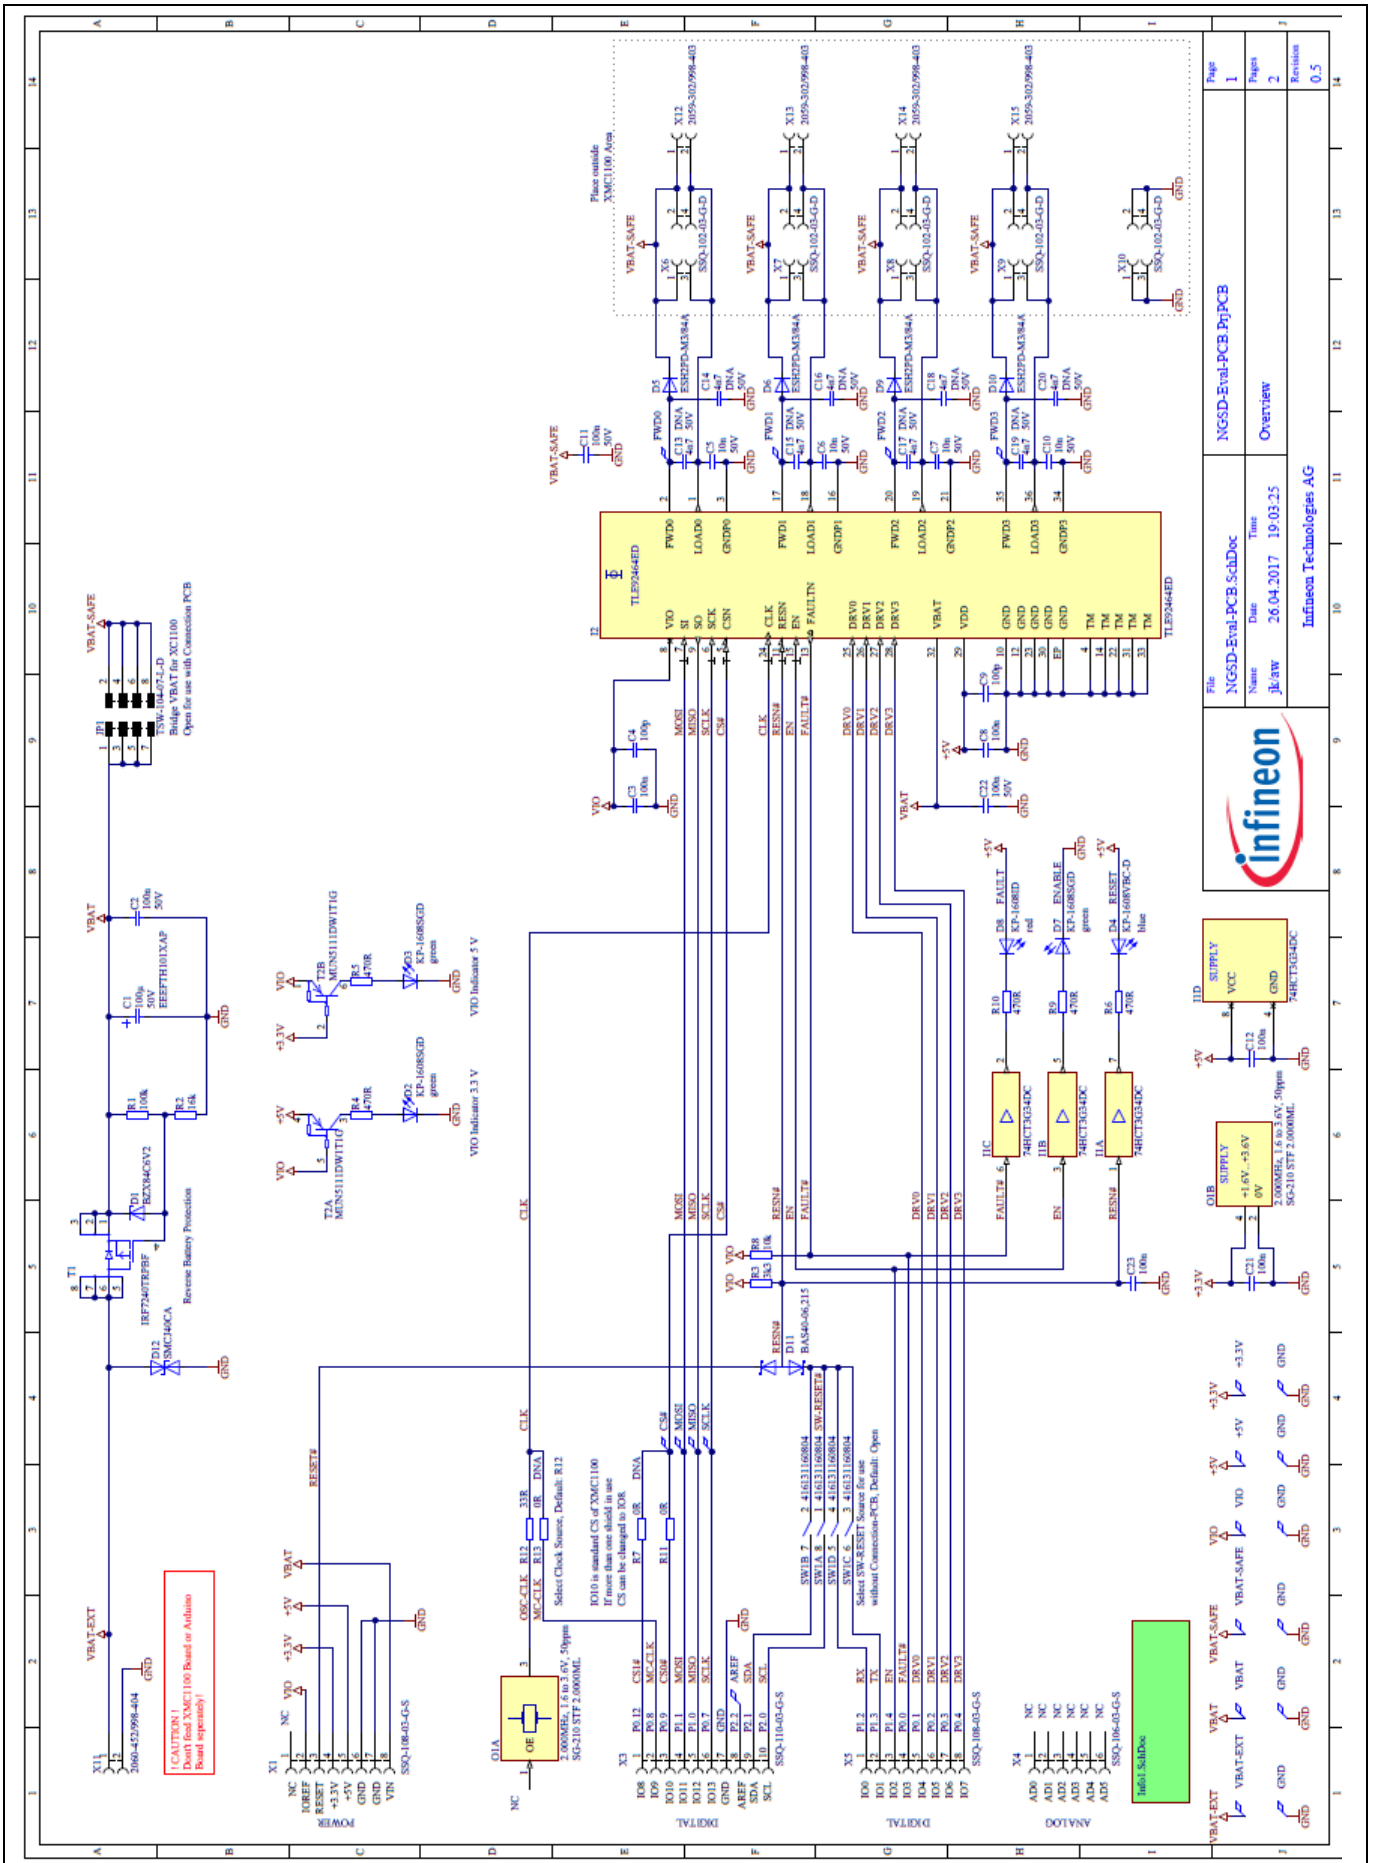

Figure 11 Schematic of the TLE9246ED Evaluation PCB
- For most commands a slot number (slot) has to be entered. Slot 0 selects the Connection PCB. The Eval-PCBs are enumerated according to the slot naming shown in figure 11 (Slot A: (1) to Slot C: (3)). The XMC1100 has a single slot (1) only.